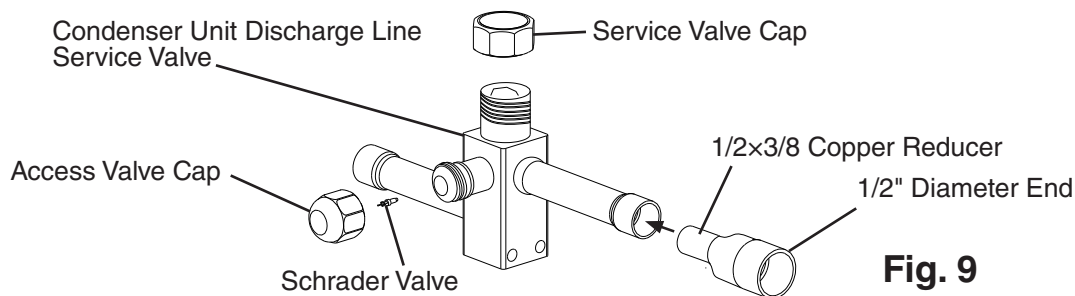

Fig. 9
- b) Place the 3/8" end of a 1/2"×3/8" copper slip reducer (not provided) in the icemaker discharge line service valve, then place the discharge line copper tube into the 1/2" end of the 1/2"×3/8" copper slip reducer. See Fig. 9.
- b) Place the 3/8" end of a 1/2"×3/8" copper slip reducer (not provided) in the condenser unit discharge line service valve, then place the discharge line copper tube into the 1/2" end of the 1/2"×3/8" copper slip reducer. See Fig. 9.